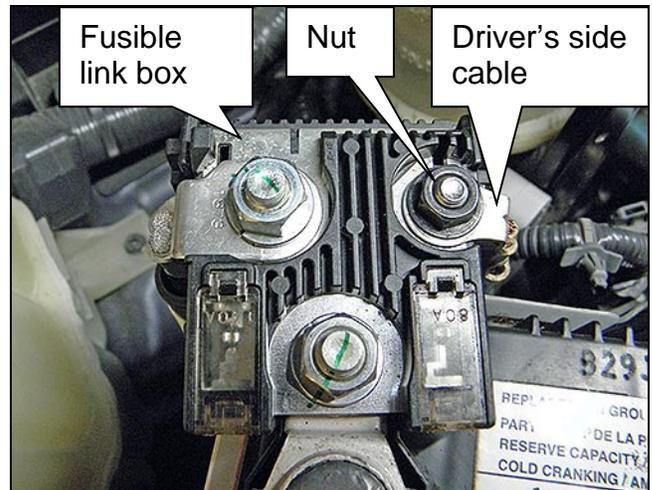

Figure 22
27. Attach the driver's side cable shown in Figure 22 to the fusible link box and torque.